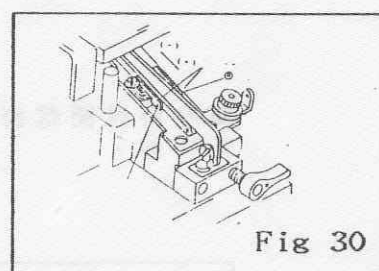

Fig 30
To adjust: loosen the screw (1), then turn the Looper Thread cam (2). (Fig 30)